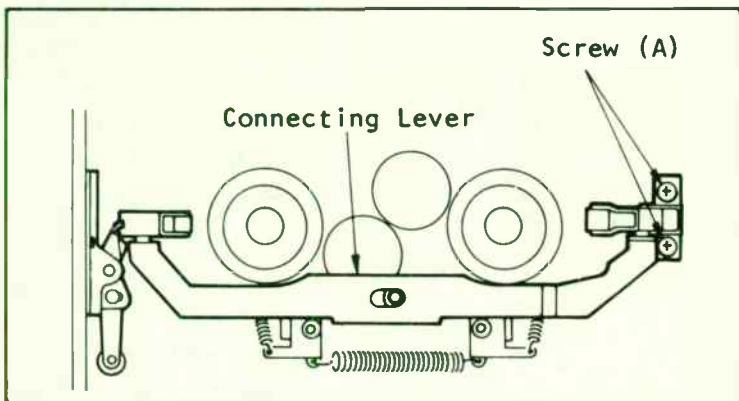

Fig. 10-11. Brake torque adjustment (courtesy of Magnavox).
4—Remove two screws (A) and lift the connecting lever so the brake units are visible (see Fig. 10-11).